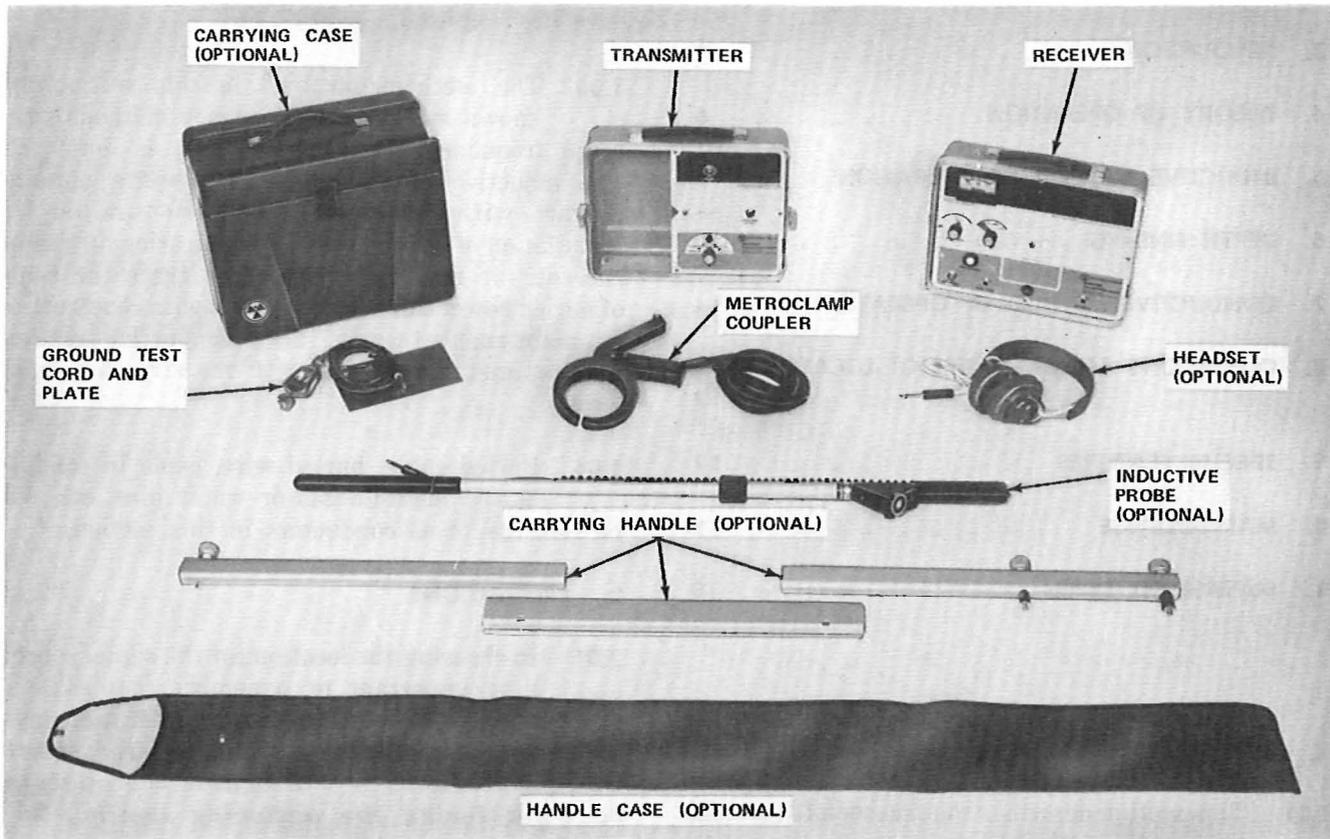

Fig. 1—Metrotech Model 480 Pipe and Cable Locator With Optional Accessories
3.01 The Metrotech Model 480 pipe and cable locator (Fig. 1) consists of a directional radio-type transmitter, a directional radio-type receiver, a ground plate, ground test cord, and a Metroclamp coupler. Optional accessories include a carrying case, headset, inductive probe, carrying handle, and handle case.